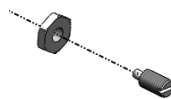

Figure 20 – M3 half nut and pendulum pivot screw
1. Loosen the M3 half nut and pendulum pivot screw as shown in *Figure 20*.